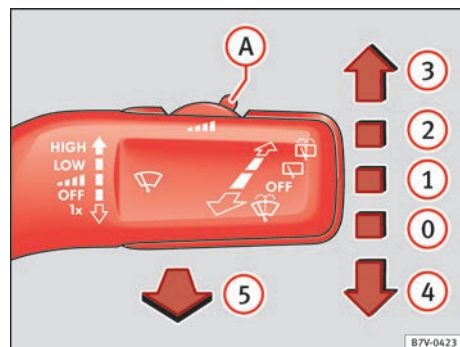

Fig. 66 Using the windscreen wipers.
- Press the windscreen wiper lever downwards briefly ⇒ fig. 66 ④.